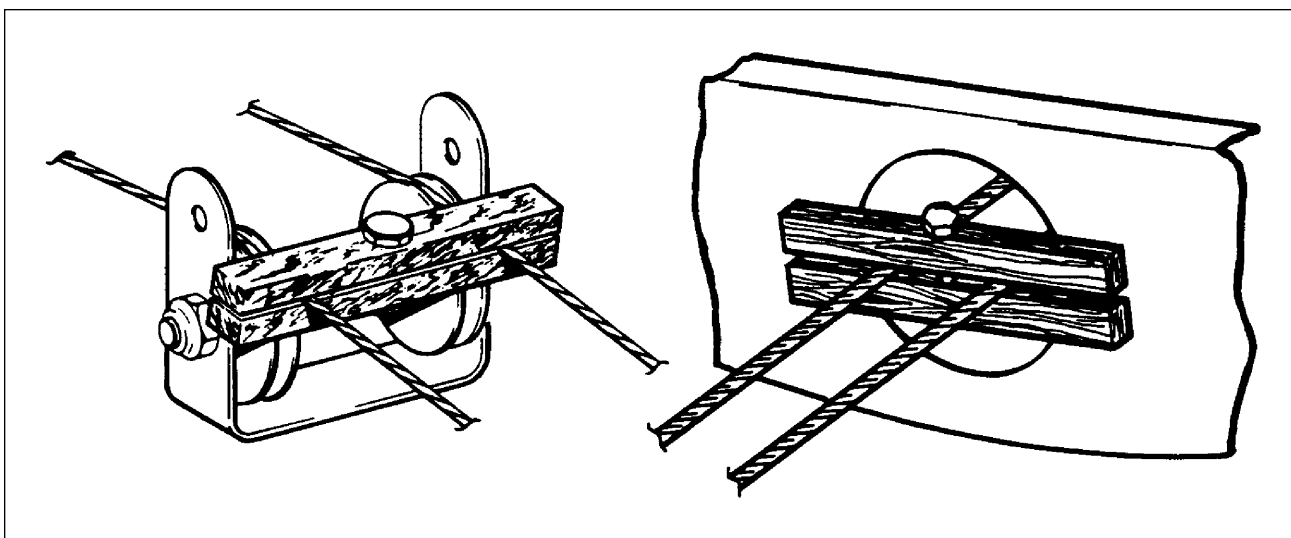

Figure 4-4. Methods of Securing Control Cables
### 4-18. REMOVAL OF STABILATOR. (Refer to Figure 4-4.)
- d. Install cable blocks, as illustrated in Figure 4-4, on the stabilator trim control cable at the first set of pulleys forward of the cable turnbuckles to prevent the forward cable from unwrapping.